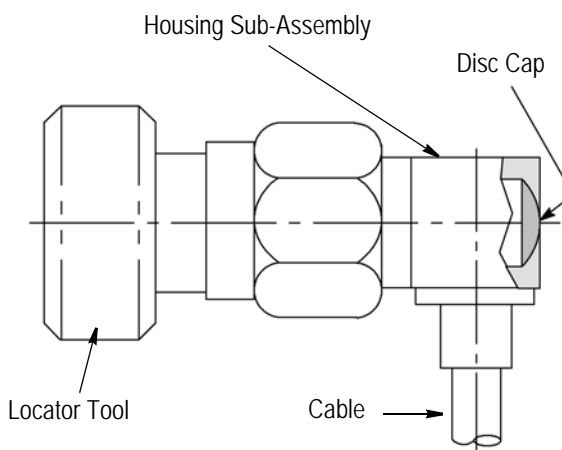

Figure 6
1. Press disc cap into opening in rear of housing sub-assembly as shown in Figure 6.